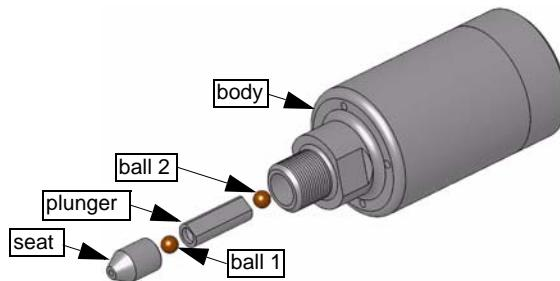

Figure 5-60: Safety Valve Internal Components
The high-pressure water seal occurs between the seat and the first ball (Figure 5-60). The body contains a large spring that pushes on the ball and seat creating a water seal up to 66,000 PSI (+ or - 2K). When leaks occur in the safety valve, they will be observed at the 4 holes in the large body, which normally are dry with no water inside.
2. Remove and discard the two balls and seat (Figure 5-60).
6. Stack the parts together (refer to Figure 5-60) and screw the assembled body into the tee fitting by hand.